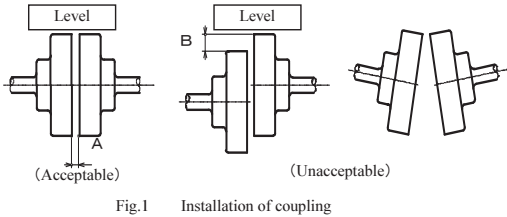

Fig.1 Installation of coupling
- (1) To properly connect the Geared Motor to the machine, reduce the eccentricity between the motor and machine to 0.05mm or less. Use the flexible coupling to easily connect the motor to the machine. (Refer to Fig.1).